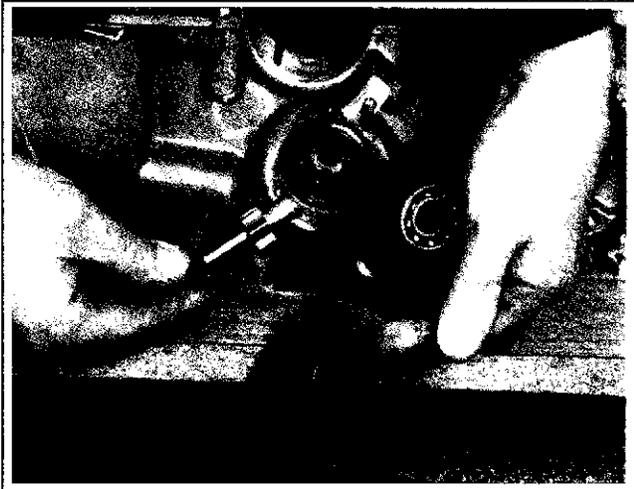

Figure 10-20. Oil Pump Outer Parts.
3. Remove the cover, wear plate, and the outer rotor and shaft. See Figure 10-20.